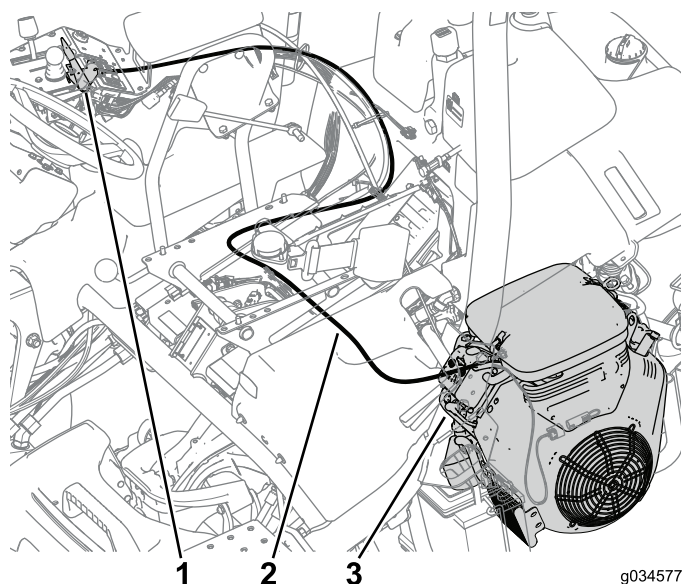

Figure 18
1. Follow the original cable routing to route the new choke cable and secure it to the machine with cable ties (Figure 18).
2. Connect the cable to the choke control on the engine (Figure 18).